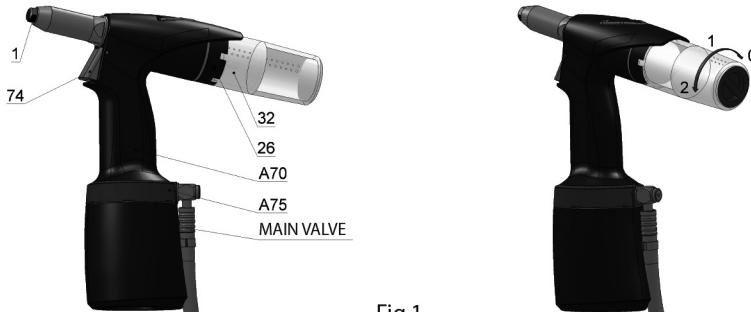

Fig.1
The manufacturer equipped the tool with a nose-piece /fig.1 – pos.1/ for a rivet $\varnothing 5,0$. Riveting with blind rivets of different diameters (further referred to as BR) requires use of appropriate nose-pieces that are located in the accessories casing of the tool.
Replacement of nose-pieces: Connect the tool to the source of compressed air, depress the trigger and screw out the nose-piece /fig.1 – pos.1/ with a spanner no. 12. Screw on a new nose-piece /acc. to the chart/ and tighten it. Now you can release the trigger of the tool.
The tool is equipped with revolving air supply /fig.1 – pos.A75/ which enables manipulation with air supply before as well as during tool operation, air hose does not obstruct riveting in any position.
The tool is equipped with multifunction trigger /fig.1 - pos.74/ which enables following:
- Unlock the trigger (shifting the trigger down to the stop) and release it. The suction is switched on and the trigger is in position see fig. 1.
The tool is equipped with a multifunctional mandrel container /fig.1 - pos.32/ which has the following positions:
Put and push the mandrel container /fig.1 - pos.32/ into the ring relief /fig.1 – pos.26/ end-to-end, thus you depress the arrestment element, and turn to position 1 or 2. The mandrel container shall thus be in place. The suction shall initiate in position 2. Relative position of the mandrel container with air outlets /fig.1 - pos. 32/ and the ring relief /fig.1 – pos.26/ ensures that the outlet air pressure goes out in a suitable direction (e.g. offward the operator of the tool).
Turn the mandrel container /fig.1 - pos.32/ end-to-end to position 0 and pull it out of the ring relief /fig.1 – pos.26/. The suction shall thus switch off.
Suction switches off by turning and removing the mandrel container /fig.1 - pos.32/. Insert BR into the riveting tool through the nose-piece hole. Depress the trigger to move the jaws offward the BR head. The movement ends when reaching max. stroke, correct BR with respect for material gauge shall tear off the shank (riveting) for one stroke of the tool. Releasing the trigger shall return the jaws to initial position and released torn-off shank can be removed from the nose-piece by tilting the tool. /fig.1 - pos.1/.
Mounting and turning the mandrel container /fig.1 - pos.32/ to position 1 shall arrest it. Insert BR into the riveting tool through the nose-piece hole. Depress the trigger to move the jaws offward the BR head. The movement ends when reaching max. stroke, correct BR with respect for material gauge shall tear off the shank (riveting) for one stroke of the tool. Releasing the trigger shall return the jaws to initial position and the released torn-off shank can be transported into the mandrel container by tilting the tool.
Suction switches on by turning the mandrel container /fig.1 - pos.32/ to position 2. In this position the suction holds BR in the nose-piece /fig.1 - pos.1/ which enables riveting in any position without danger of BR falling out of the nose-piece of the tool. Depressing the trigger shall perform riveting. Releasing the trigger shall transport the shank into the mandrel container. If the mandrel container